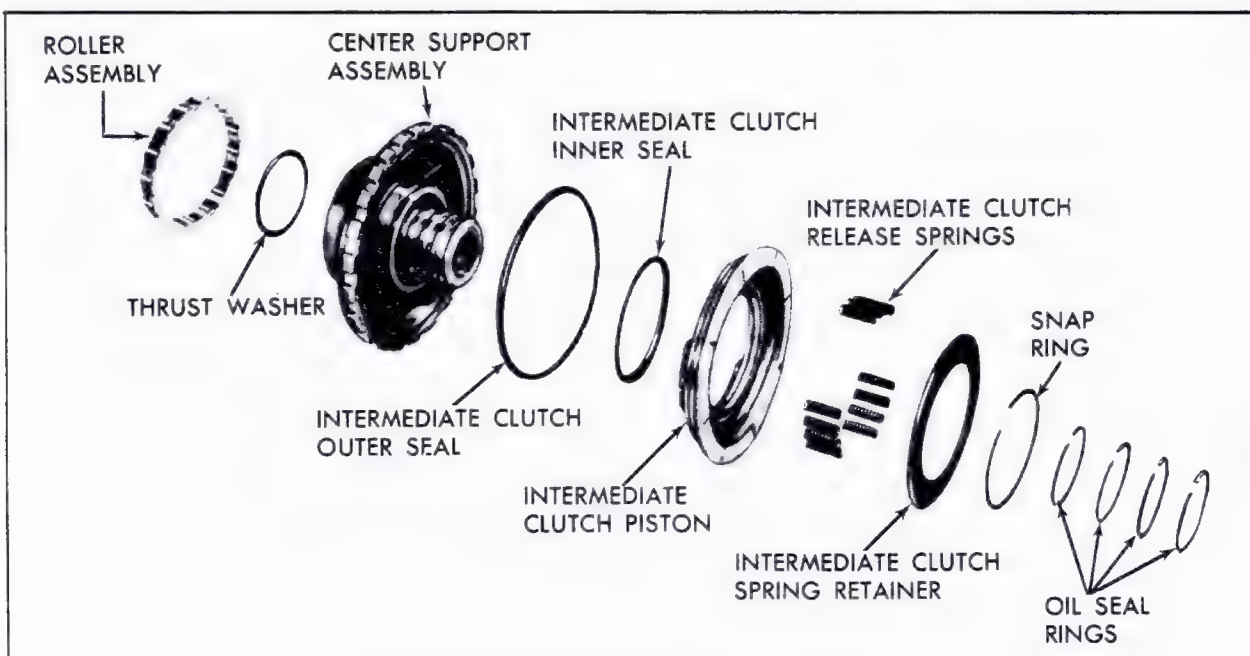

Fig. 7-188 Case Support Assembly Disassembled
14. Assemble Center Support and Intermediate Clutch Piston Assembly (Fig. 7-188)